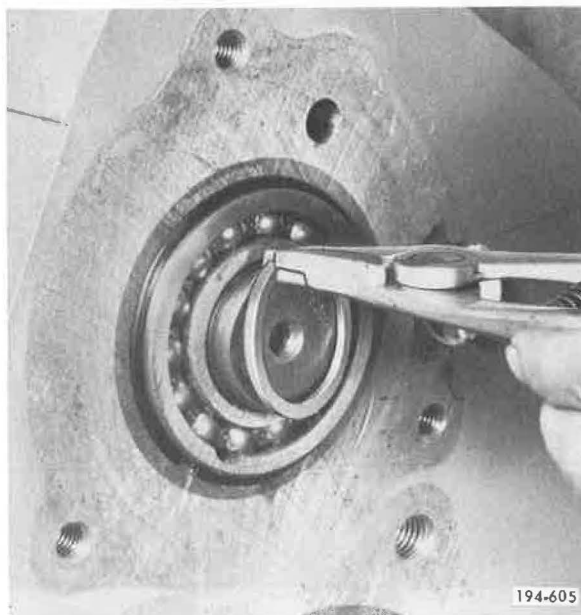

Figure 5-484. Installing Snap Ring
15. Place rear countershafts in position, and install rear bearing retaining snap ring, using snap ring pliers J-25445 or equivalent. See Figure 5-484.